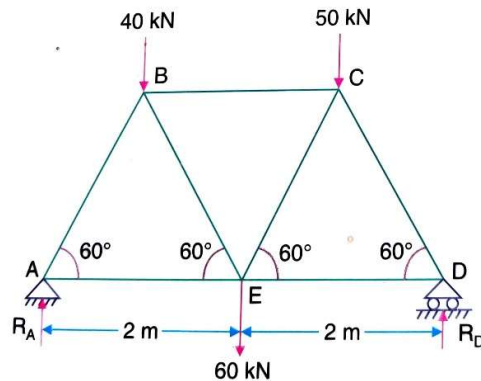

Figure 1
- Q.1 Determine the forces in the members of BC, BE and BA of the truss shown in figure 1 [5] CO CO1 BL L2